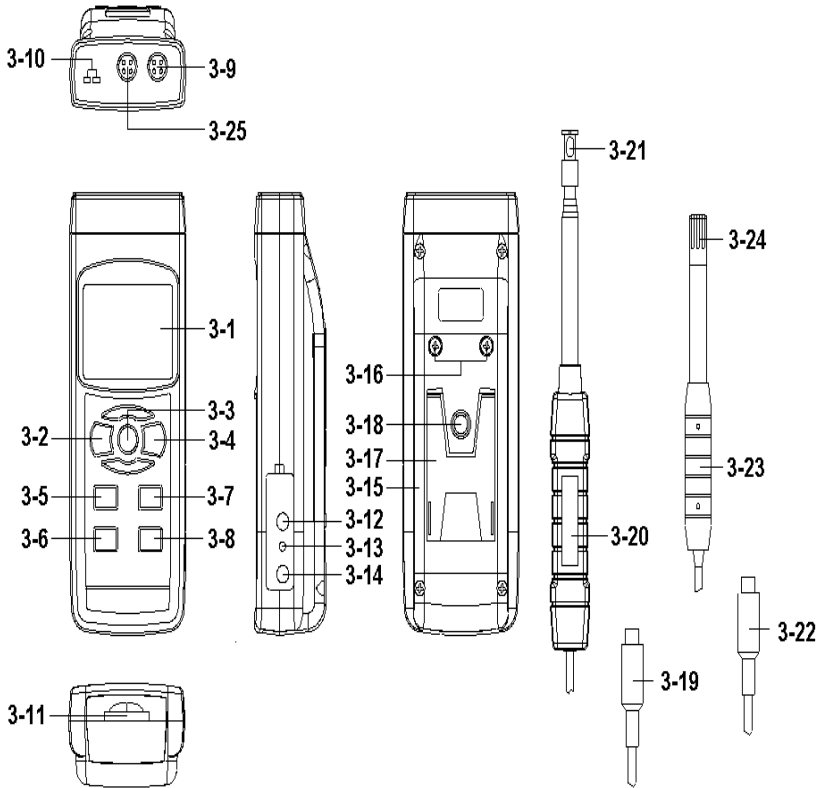

Fig.1
( 3-2, Fig. 1 ) > 1.5 seconds continuously.
Pressing the " Function Button " ( 3-7, Fig. 1 )
just release the " Function Button " ( 3-7, Fig. 1 ), the
- 3) Plug the " Probe Plug " ( 3-19, Fig. 1 ) into the " Probe Input Socket " ( 3-9, Fig. 1 ).
Power on the meter by pressing the " Power Button " ( 3-2, Fig. 1 ) > 1.5 seconds continuously.
- 4) Hold the " Telescope Probe " ( 3-20, Fig. 1 ) by hand and let the " Sensing Head " ( 3-21, Fig. 1 ) face against the measuring air flow source, then the Display ( 3-1, Fig. 1 ) will show air velocity directly. At the same time, the lower Display will show the air temperature value.
If intend to change the Air velocity unit, press the Unit Button " ( 3-5, Fig. 1 ) > 1.5 seconds, the unit will change from m/s to Km/h, mph, Knot, FPM in sequence, until the desired unit is present on the Display release the " Unit Button ", the select unit will save into the memory with default.
- a. Plug the " Probe Plug " ( 3-22, Fig. 1 ) into the " Probe Input Socket " ( 3-25, Fig. 1 ).